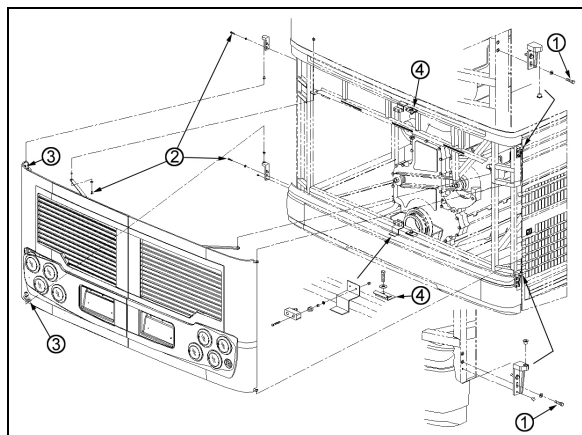

FIGURE 27: ENGINE COMPARTMENT DOORS
1. Loosen the bolts, (1, 2 Fig. 27) holding the hinge to the vehicle structure to shift the door "UP or DOWN".
2. Loosening the bolts (3, Fig. 27) allows the door to be shifted "LEFT or RIGHT" and "IN or OUT".
To adjust the latch mechanism (4, Fig. 27) and the striker pin: